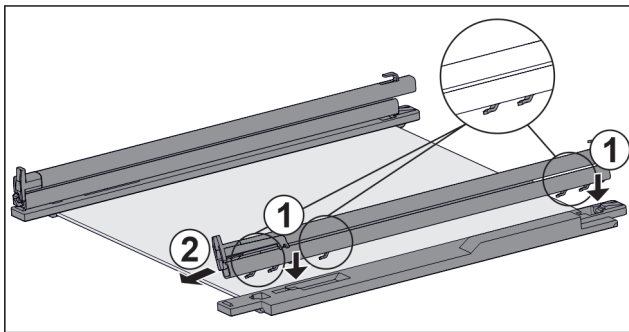

Fig. 53 Glass shelf with rails and retaining parts
- Place rail hooks onto the openings of the **left** retaining part. Fig. 53 (1)
- Push rail forwards. Fig. 53 (2)
- Place rail hooks onto the openings of the **right** retaining part. Fig. 53 (1)